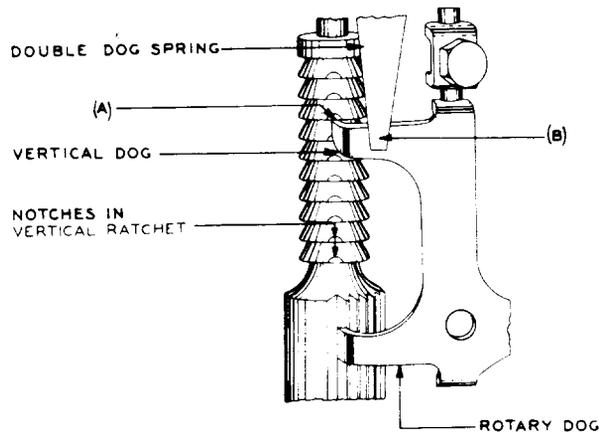

Fig. 19—Horizontal Alignment of Vertical Dog
(b) **Maximum:** With the vertical magnets electrically operated and the shaft raised by hand so the vertical pawl is resting against the casting (overthrow stop), the gap between the top of the vertical dog and the undersurface of the vertical tooth (Fig. 19, location A) shall be a maximum of 0.010 inch. This requirement shall be checked with the shaft on the first, fifth, and tenth levels. **Use the 92A gauge.**
width of the tip of the vertical dog shall be within the notches in the teeth (Fig. 19, location A) as the shaft is moved vertically. To test and readjust the horizontal alignment of the vertical dog, proceed as follows:
**3.36 Alignment of Double-Dog Spring:** The double-dog spring (Fig. 19, location B) shall be free from irregular bends or excessive bowing, and the center line of its broad surface shall be approximately parallel with the shaft. *Gauge by sight.*